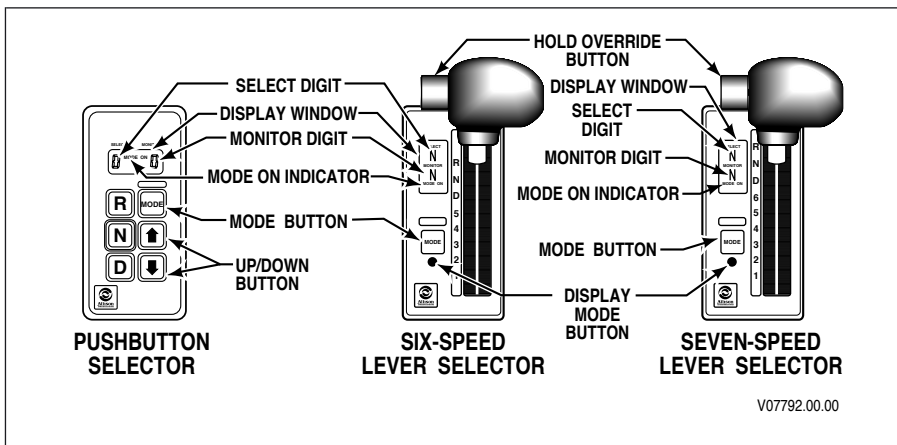

Figure 2–5. Shift Selectors
The displayed code is currently active if the MODE ON indicator in the display window (Figure 2–5, Shift Selectors) is illuminated. The displayed code is inactive if the MODE ON indicator is not illuminated. In normal operating mode, an illuminated MODE ON display indicates secondary mode operation.
c. Clearing Trouble Codes Using Shift Selector. During installation, “false” codes can be recorded in the electronic control memory. Clear these codes before road testing the vehicle. Use the shift selector to clear the codes (Figure 2–5, Shift Selectors):
d. Retrieving Troubleshooting Codes. During installation, “false” codes can be recorded in the electronic control memory. Clear these codes before road testing the vehicle. After road testing the vehicle, check for the codes. Retrieve the codes by using the shift selector (Figure 2–5, Shift Selectors).
- Use the MD/HD Product Line individual clutch-apply circuit pressure taps when necessary (Figure 2–6, Clutch Pressure Check Points).